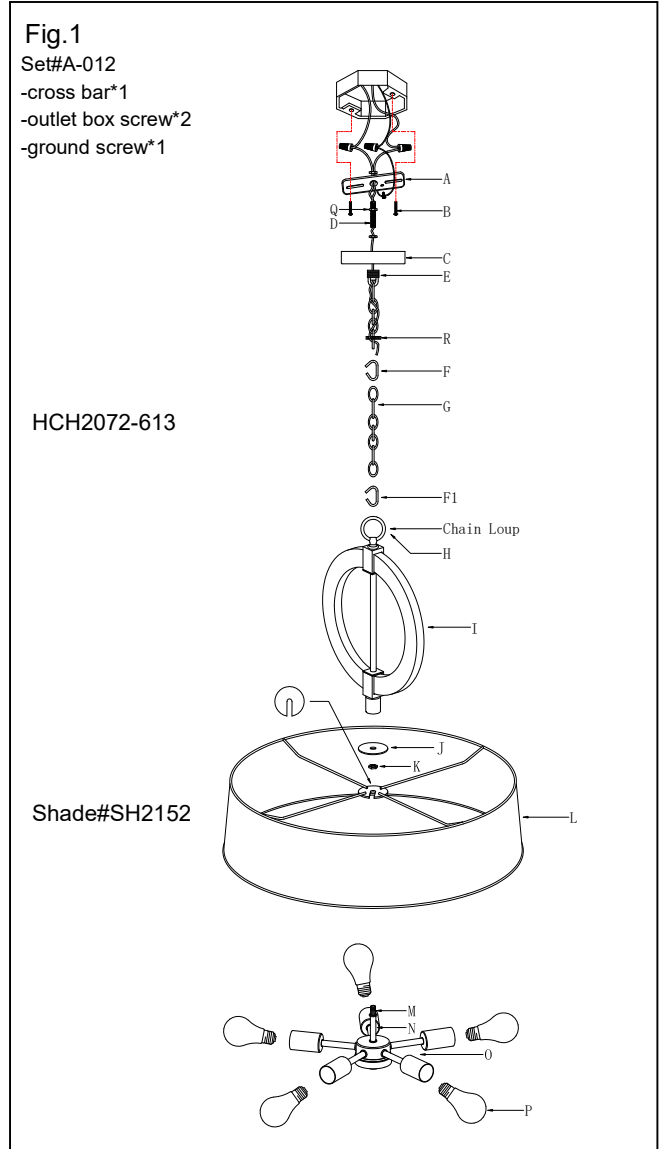

Fig. 2
CONNECTING THE WIRES (Fig. 2)
10. Connect the electrical wires as shown in fig 2, making sure that all wire connectors are secured. If your junction box has a ground wire (green or bare copper), connect the fixture's ground wire to it. Otherwise, connect the fixture's ground wire directly to the crossbar (A) using the green screw provided. Tuck wire connections neatly into junction box.